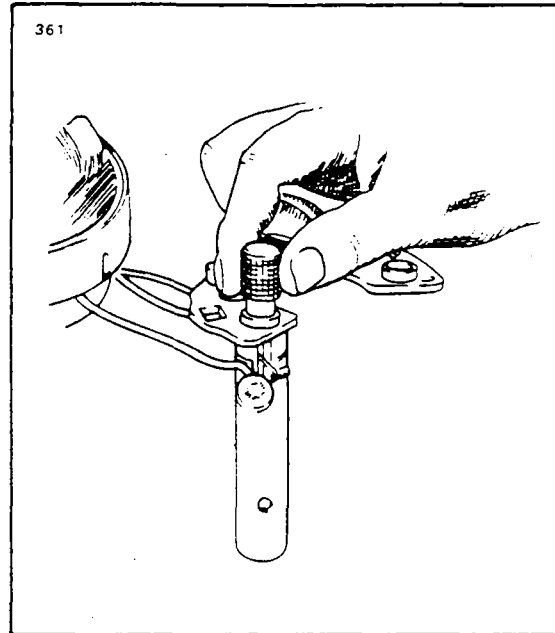

Figure 10-24c. Removal of Rectifier
- d. Remove the nuts, lock washers, flat washers and insulators from the output and auxiliary terminal studs. Note carefully the correct assembly of the insulator washers and bushings. Using the special tools shown in Figure 10-24c, support the end head and press out the three negative rectifiers. The end head can now be separated from the stator assembly.